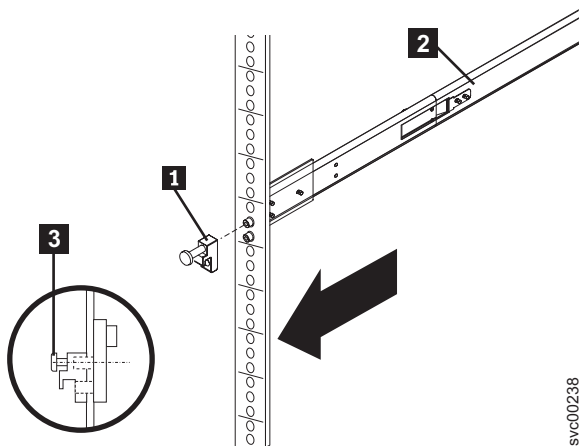

Figure 58. Attaching the latch strike to the front of the slide rail
- Attach one latch strike **1** to the front of the right rail **2**, as shown in Figure 58, using the captive screw **3**. Turn the screw only finger tight. Attach the other latch strike to the front of the left rail in the same way.